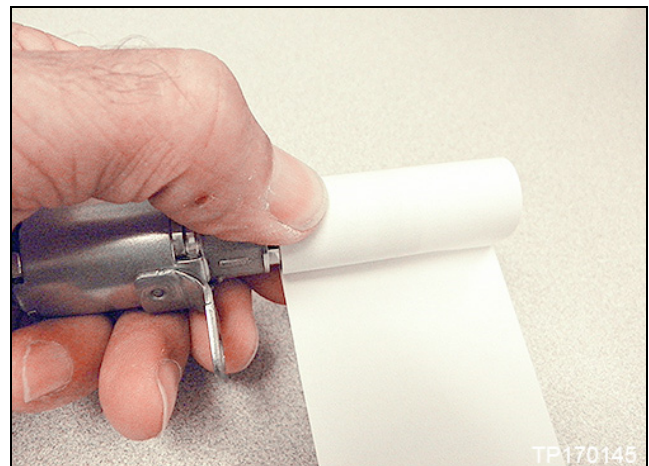

Figure 4
- c. Roll the VTC solenoid valve with the sheet of paper cut in step 5b (Figure 4).